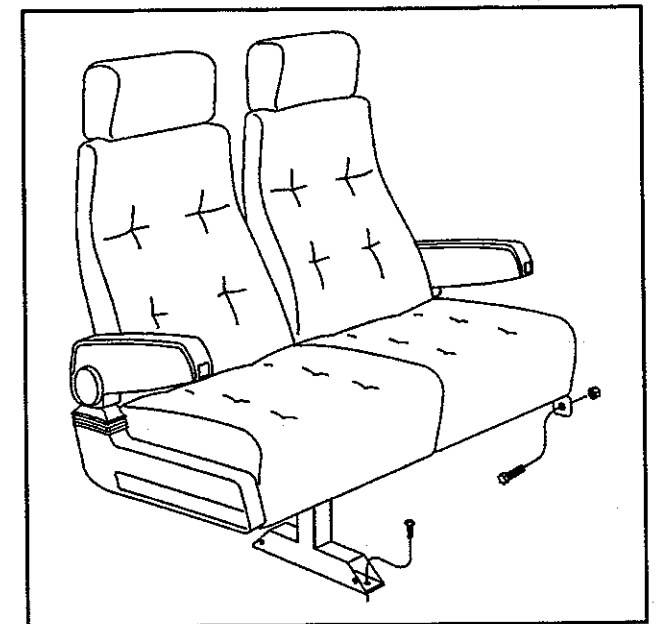

Figure 2—Pedestal Mounted Passenger Seat
For an illustration on the Pedestal Mounted Passenger Seat Removal, see Figure 2 (Pedestal Mounted Passenger Seat).
3. Remove nuts, washers and two capscrews from bracket and sidewall. (See Figure 2—Pedestal Mounted Passenger Seat.)